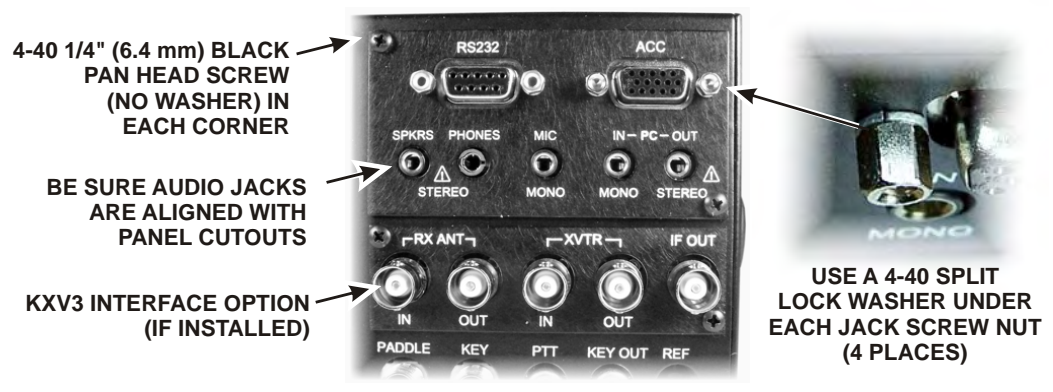

Figure 32. Mounting KIO3 Connector Panel.
- The DB9 multi-pin connector on the KIO3 Digital I/O daughter board may have jackscrew nuts installed on the connector. (Jackscrew nuts are shown in Figure 32). If so, remove them. They will be reinstalled shortly.
- Install the KIO3 rear panel as shown in Figure 32.